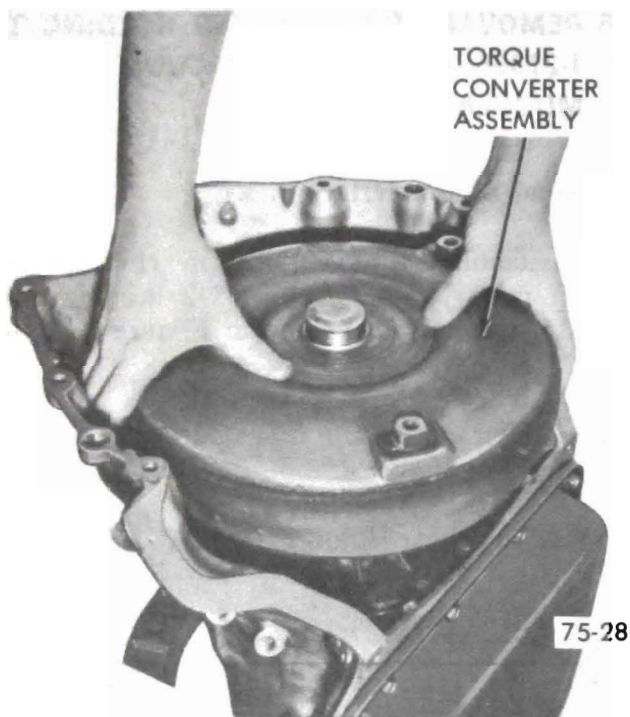

Figure 75-70
3. With transmission in Holding Fixture J-8763, remove torque converter assembly. See Figure 75-70.